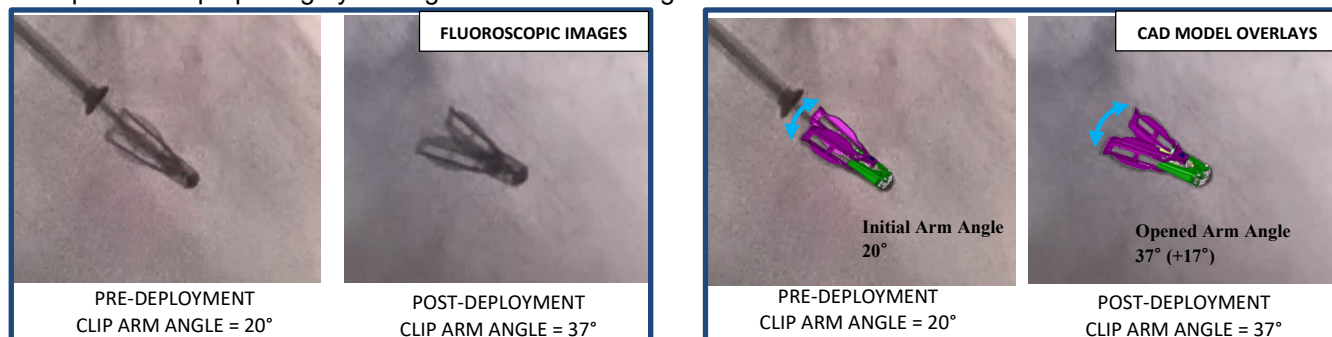

Figure 1: Fluoroscopic imaging of a Clip opening while locked (COWL) at deployment (left) with CAD model overlay superimposed (right)
- COWL describes when the Clip Arm angle increases post-deployment. In these cases, users observe a slippage in the lock, resulting in an Arm angle greater than 10 degrees from the angle observed at deployment. This change in arm angle after deployment can be identified through fluoroscopy (see example in Appendix A, Figure 1).
An example of a Clip opening by 17 degrees is shown in Figure 1.